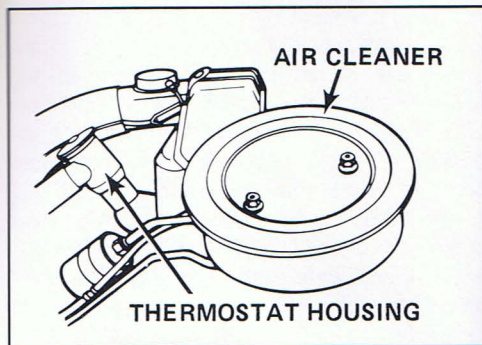

Figure 1 - Top of engine, typical
1. When the engine is cool, open the rear compartment lid for access to the thermostat housing cap and the thermostat. The thermostat housing is located at the upper left hand portion of the 4-cylinder engine (upper right hand portion of the 6-cylinder engine). See Figure 1.